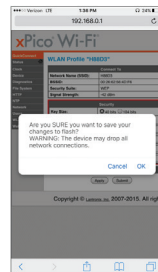

Figure 13: Complete Connection
9. Click on the OK button in the dialog box. Ignore the displayed warning during the final process. **Note:** The device in the warning is XPicoWiFi. See Figure 13.